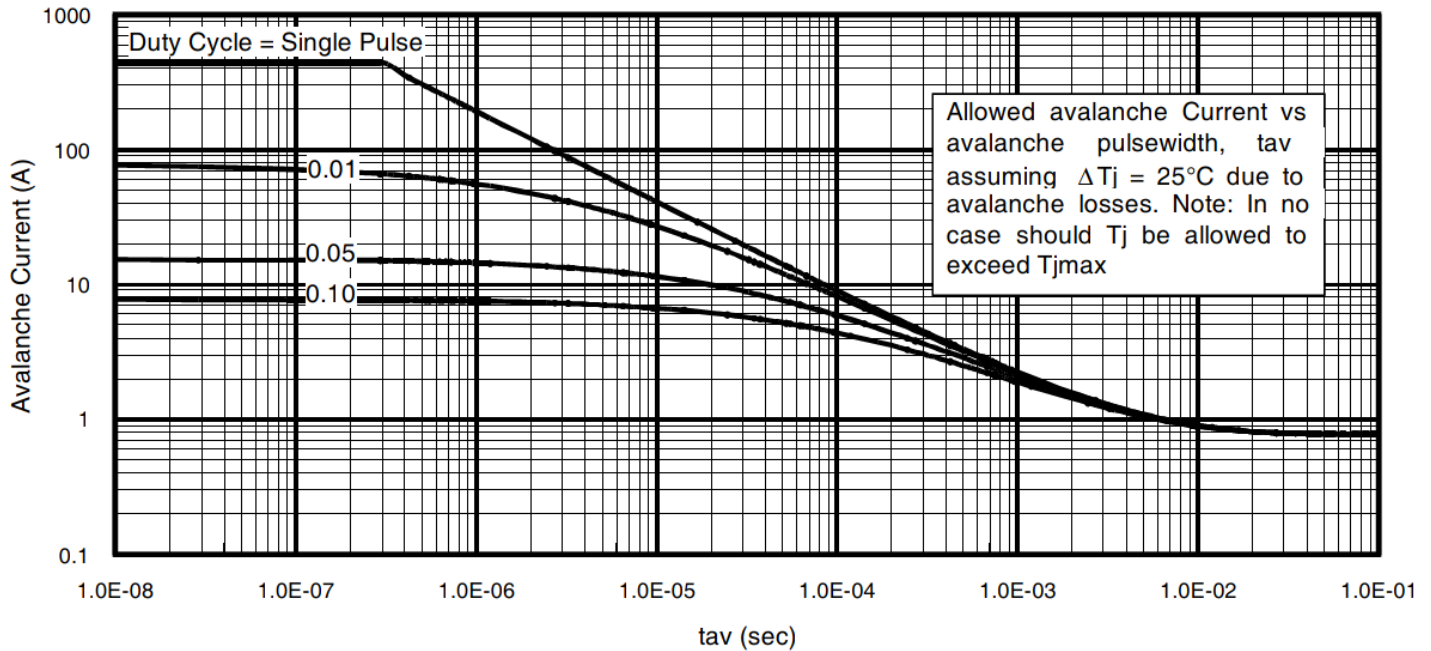

Fig 15. Typical Avalanche Current vs. Pulse Width
Notes on Repetitive Avalanche Curves , Figures 15, 16:
7. ΔT = Allowable rise in junction temperature, not to exceed T_{jmax} (assumed as 25°C in Figure 15, 16).